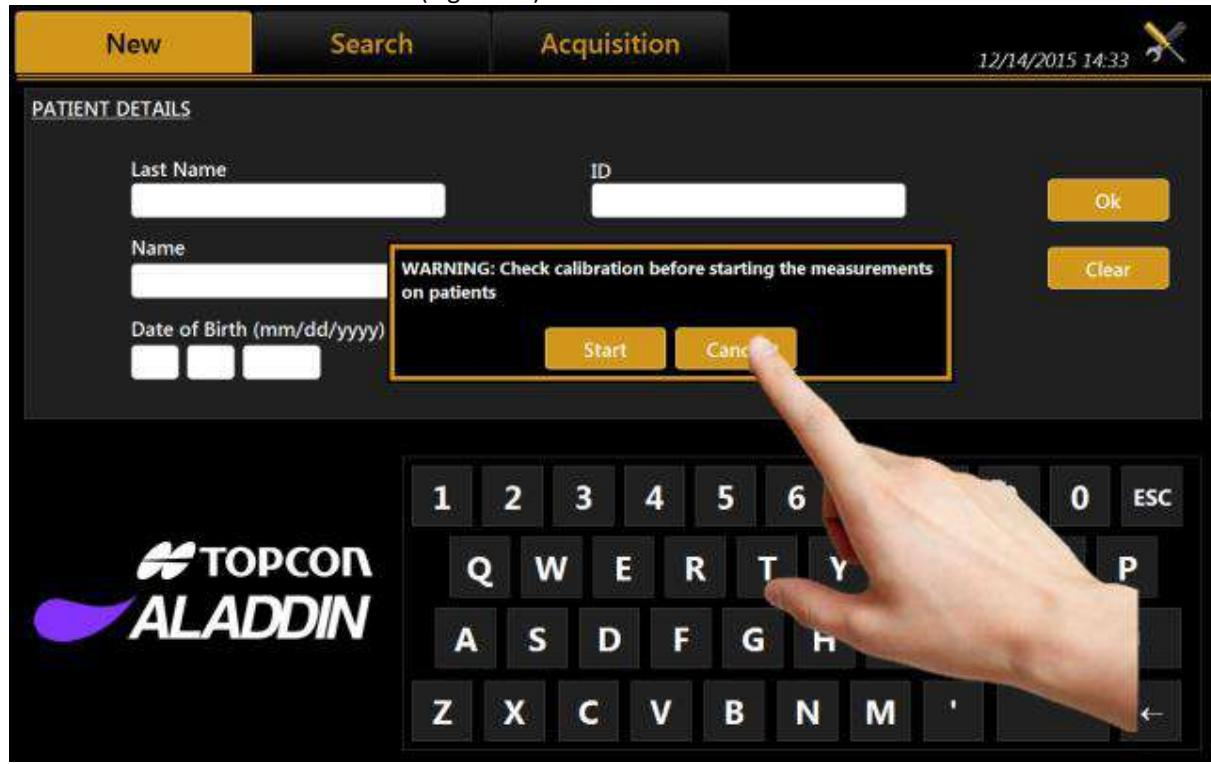

Figure 93
3. Cancel the calibration check (Figure 93).